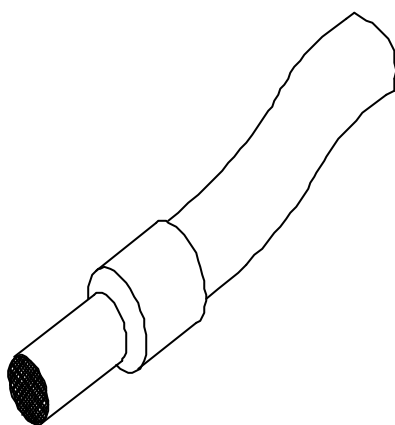

Figure 5-5 Cold end terminal
- 2) Adopt the cold-pressed connector to connect the power cables and the -48V terminal block. The connector is cold-pressed upon delivery. For fixation, just insert the connector of the power cable into the relevant jack of the terminal block and fasten screws on the terminal block. The cord end terminal is shown in Figure 5-5.